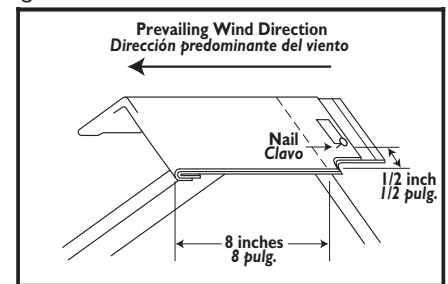

Figure 3
4. Completely cover "starter" shingle with the 8" exposed portion of the next hip and ridge shingle. (Fig. 3)